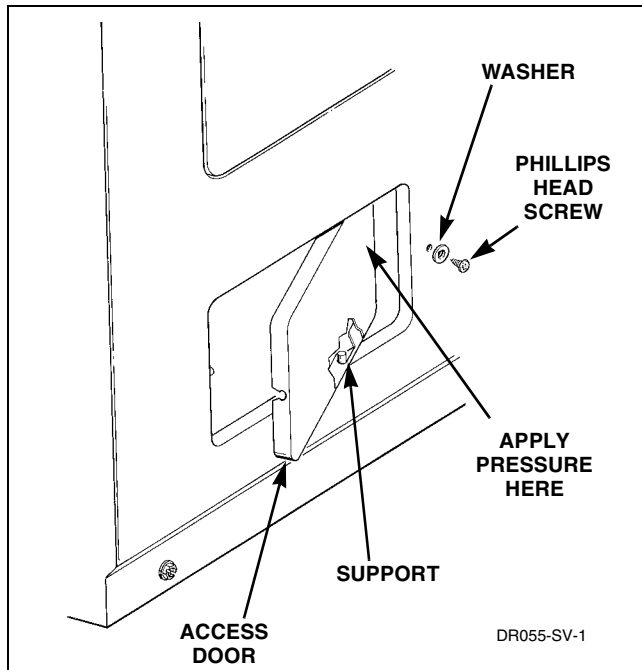
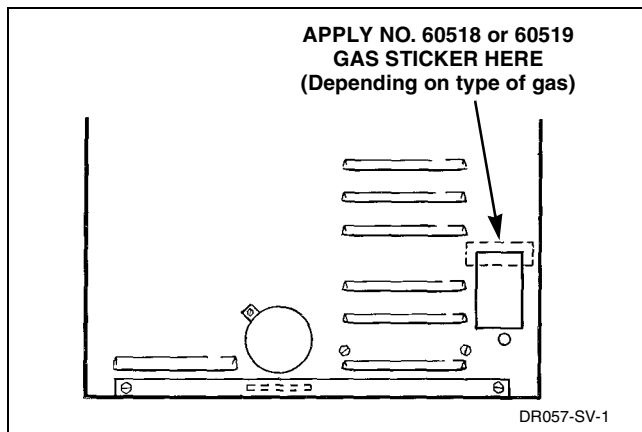

Figure 42
Figure 44
- a. Remove Phillips head screw and washer holding the access door to the front panel. Refer to *Figure 42*.
- b. Apply thumb pressure to the right edge of the door. When the door opens, move the door to the left to disengage from the door supports. Refer to *Figure 42*.
- a. Remove Phillips head screw (if present), then apply thumb pressure to the right side of access door. Refer to *Figure 42*. When door opens, move door to the left to disengage from door supports.
- i. Sign and date each of the two No. 60518 L.P. Gas Stickers. Install one of the No. 60518 L.P. Gas Stickers over the top three lines of the old sticker on rear of cabinet. Refer to *Figure 44*. Then place the second sticker over the top three lines of the old sticker located on backside of access door. Refer to *Figure 42*.
- Remove Phillips head screw (if present), then apply thumb pressure to the right side of access door. Refer to *Figure 42*. When door opens, move door to left to disengage from door supports.
- Sign and date each of the two No. 60519 Natural Gas stickers. Install one of the No. 60519 Natural Gas stickers over the top three lines of the old sticker on rear of cabinet. Refer to *Figure 44*. Then place the second sticker over the top three lines of the old sticker located on backside of access door. Refer to *Figure 42*.